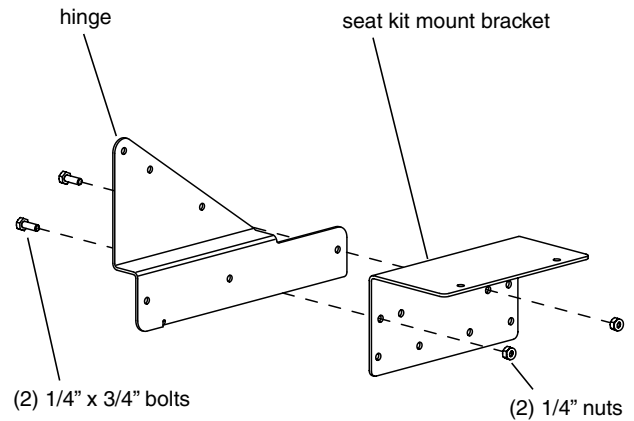

FIGURE 4 (right side shown)
1. Attach (2) seat kit mount brackets (68430) to each hinge assembly using (4) provided 1/4-20 x 3/4" hex head bolts and nyloc nuts. Make sure the mount brackets are positioned in the correct hole locations so seat brace and seat positions are correct later in instructions. **SEE FIGURE 4.**